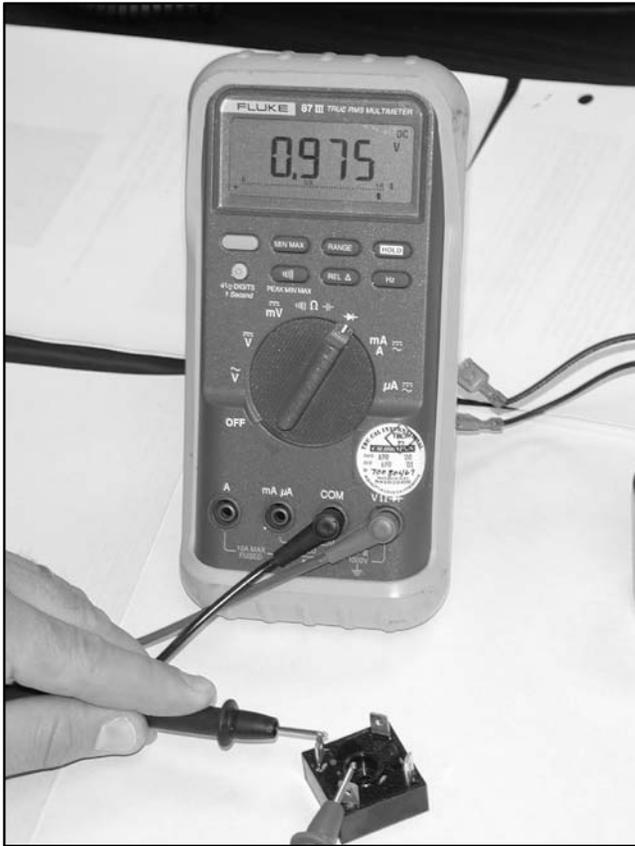

Figure 5-16 Checking Diode Operation of Rectifier
8. Check the diode operation of the rectifier. See Figure 5-16 and Section 4.4 for rectifier test instructions. If the rectifier is good, go to step 11. If the rectifier is bad, continue on.